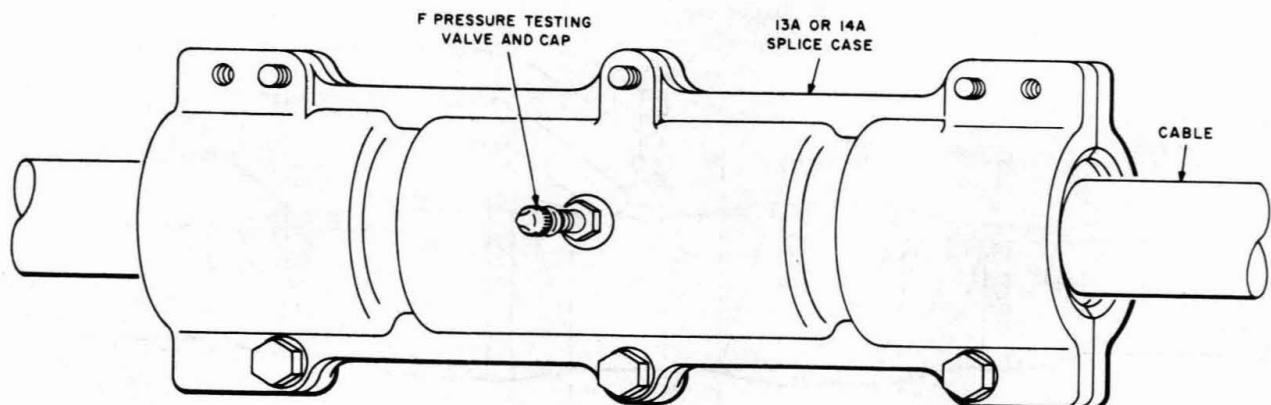

Fig. 17—Splice Case With F Pressure Testing Valve Installed
- (5) To place an F pressure testing valve in the 13A or 14A splice case, coat the threads of the valve with teflon pipe sealing tape and screw the valve into the pressure testing flange on the splice case (Fig. 17).